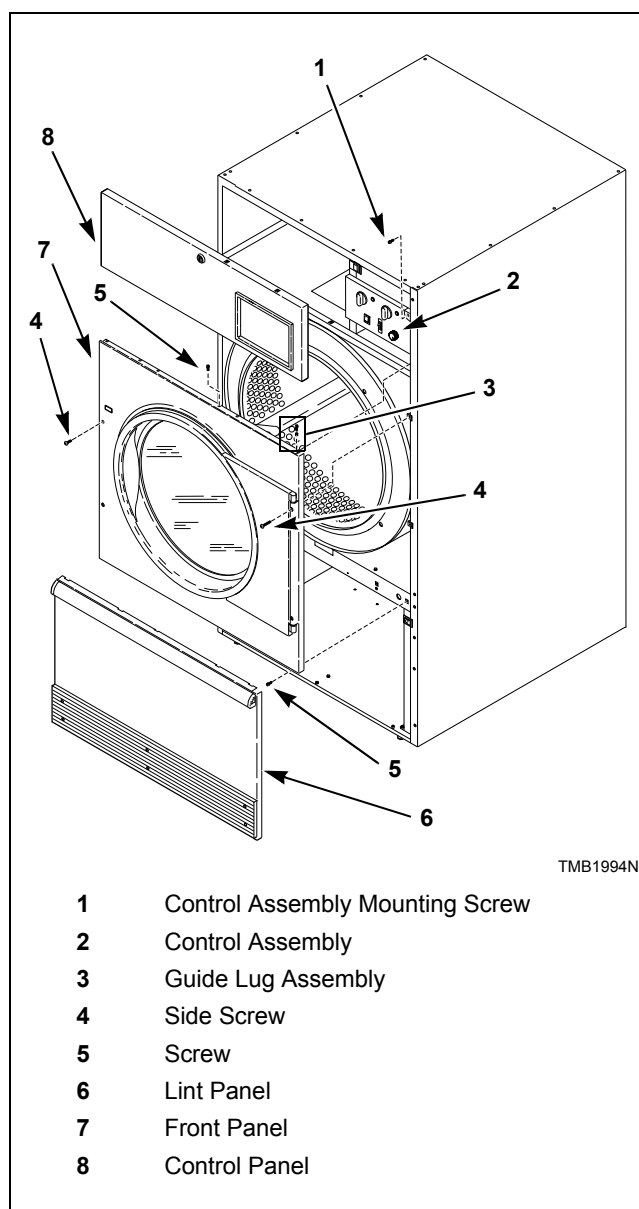
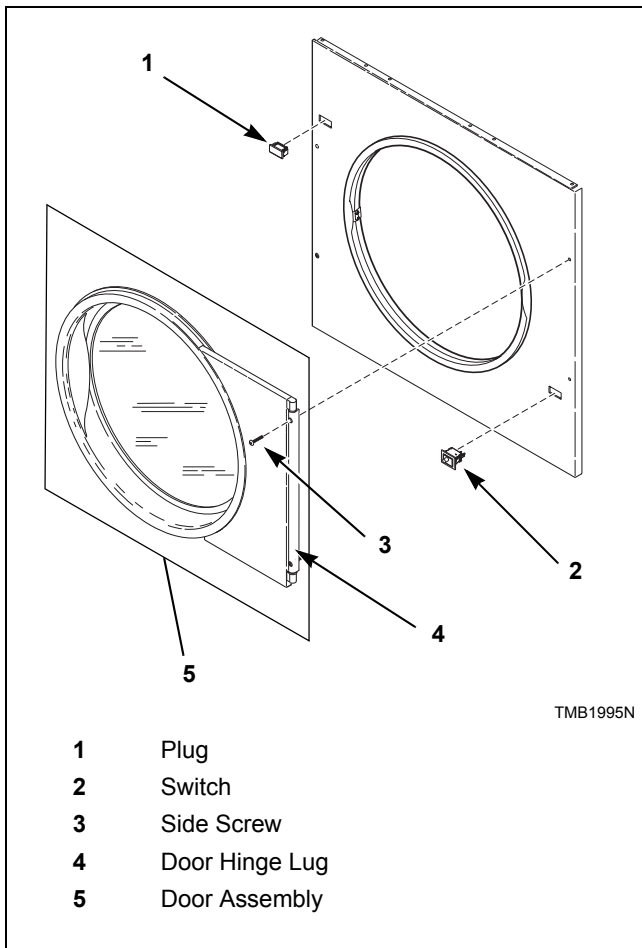

Figure 6
Figure 7
2. Unlock and remove control panel. Remove two control assembly mounting screws from right side. Swing open control to access upper flange right guide lug assembly. Refer to *Figure 6*.
4. Remove four front panel screws. Refer to *Figure 6*. Keep door hinge cams in place on door hinge lug. Pull lug and door assembly off as one piece. Refer to *Figure 7*.
5. Remove remaining front panel screws, four on the top and four on the bottom. Refer to *Figure 6*. Disconnect door switch harness from switch. Take off front panel. Refer to *Figure 7*.
6. Exchange switch and plug locations. Depress tabs with an adjustable pliers to remove plug and switch from front panel. Reinstall switch, orienting button toward center of machine. Reinstall plug in switch's previous location. Refer to *Figure 7*.